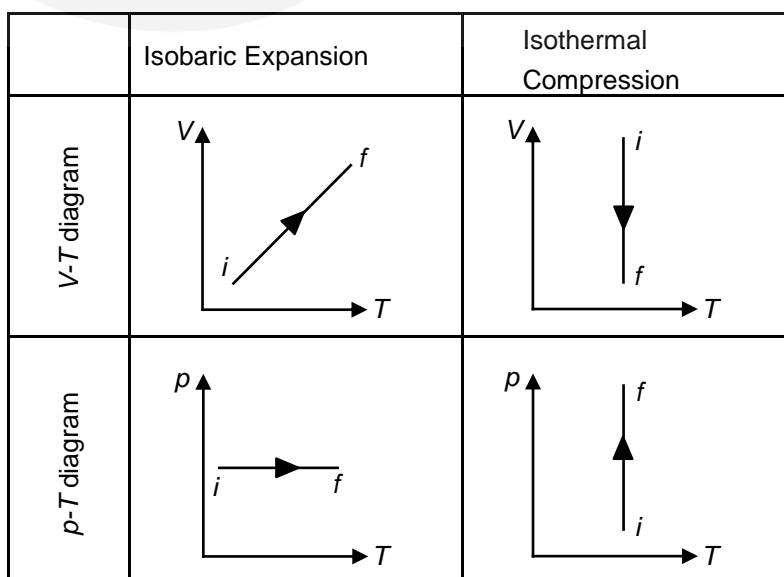

Fig. 5.10: Representation of isobaric expansion and isothermal compression on V-T and p-T diagrams.
5. The diagrams are shown in Fig. 5.10. Here i and f represent initial and final states respectively.